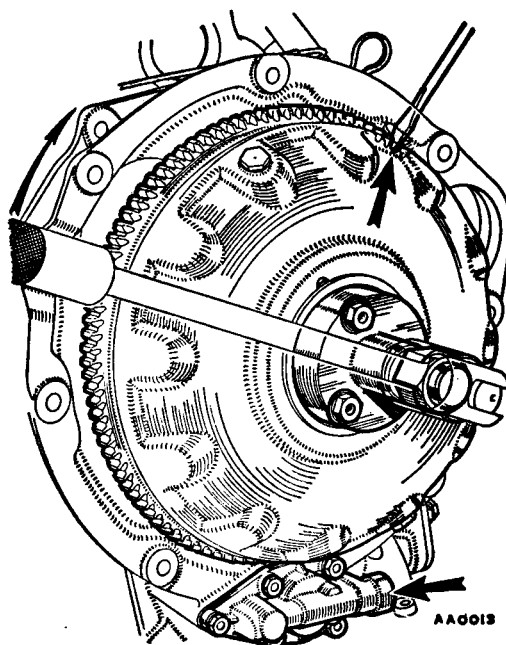

Fig. Aa.7
6. Knock back the locking tabs and remove three equally spaced set screws from the converter centre. Ensure that the slot in the end of the crankshaft is horizontal. Using Service tool 18G 1086 with the adaptor correctly positioned, remove the converter (Fig. Aa.7). Remove the Service tool and refit the three screws.